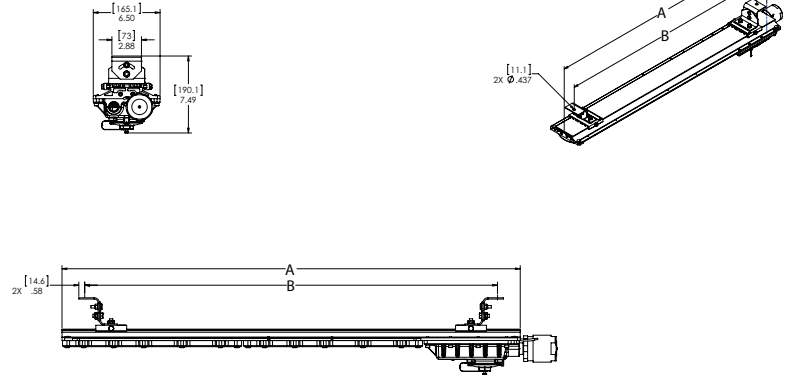

Figure 4. ZP1050MTK Swivel Mount Installation
- Mark and drill holes for fastening swivel brackets. Use two (2) 3/8" bolts (not supplied) at center to center measurements. For swivel brackets, holes may be spaced as required. For the four foot, it is required to keep them at least 18" (457mm) apart (see Figure 4) (see table for full mounting range).
- Fixture is now ready for mounting. It is strongly suggested to use two (2) qualified tradespeople to proceed with the final mounting of the fixture. This is recommended to avoid any personal injury or damage to the fixture.